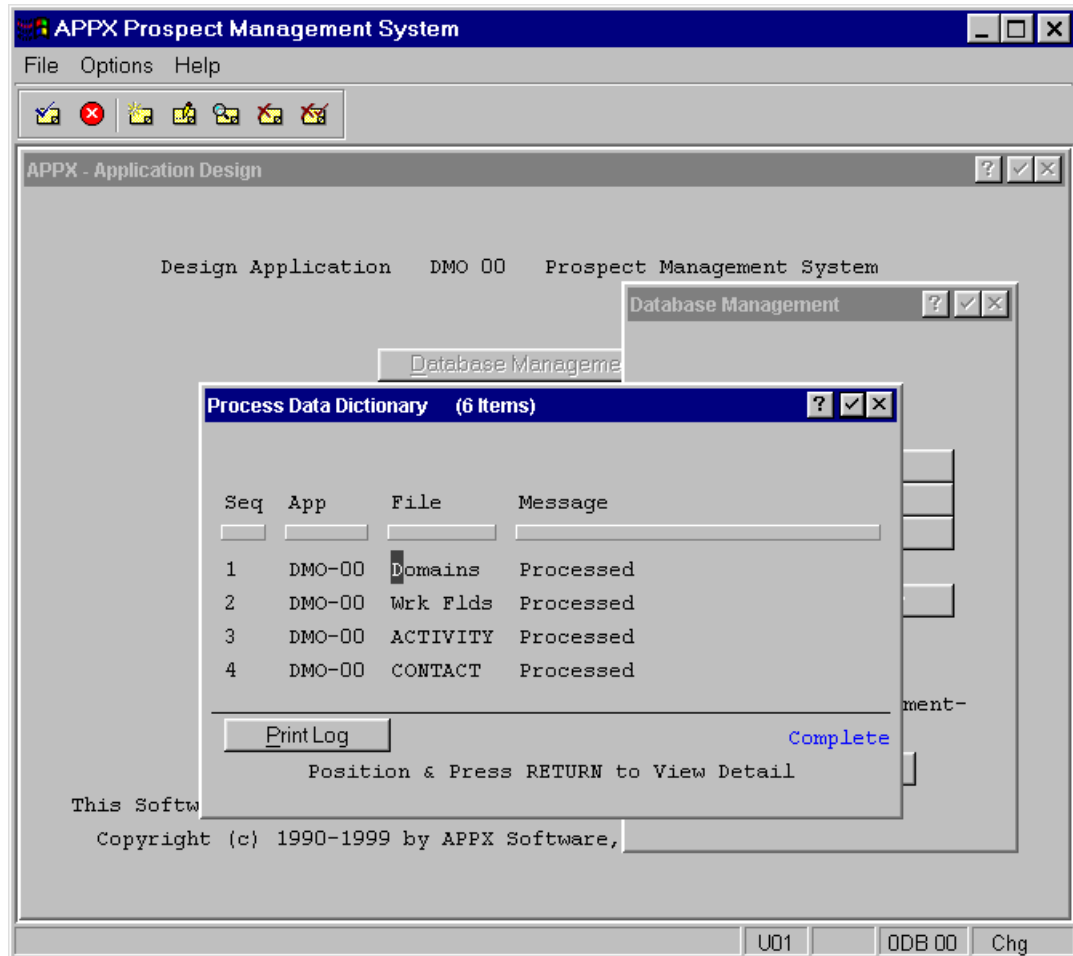

Figure E1.15 – Processing the APPX Data Dictionary
- On exiting, **APPX automatically processes the Data Dictionary**. Note that in addition to processing Domains (since you have just changed a domain) APPX also processes Work Fields and the four files containing fields that reference this Domain – ACTIVITY, CONTACT, OPPORTUN and PROSPECT. Once the Data Dictionary has been processed APPX displays the results (*Figure E1.15*). Use the **PageDown** key to move through the list of files processed and check that no Errors have been reported.